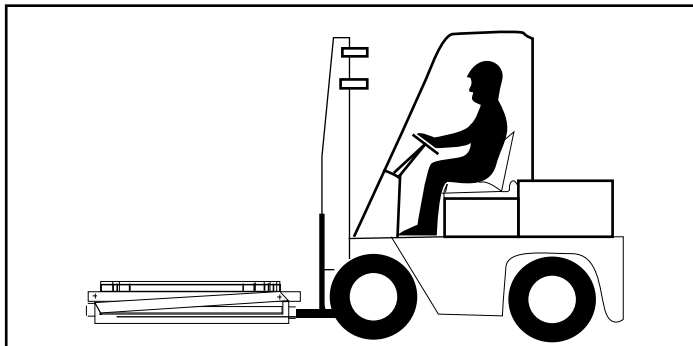

Figure 11- Moving the Positioner
4. Insert the forks into the pockets in the base frame. (See Figure 11).